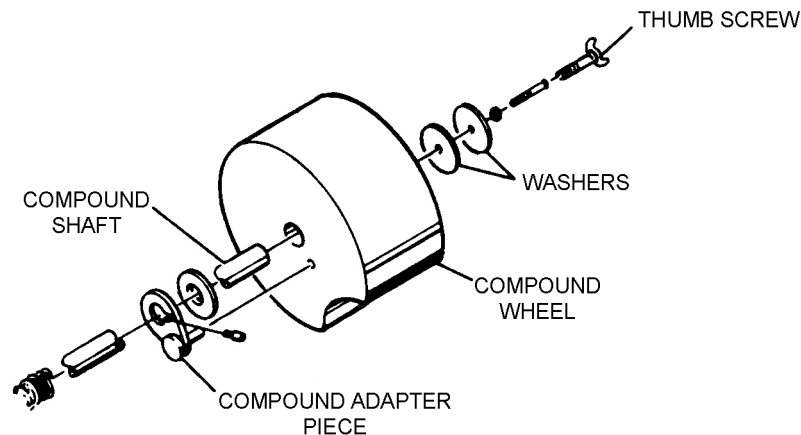

Figure 2
4. Remove the thumb screw and washer that secure the compound wheel to the compound shaft. Refer to *Figure 2*.